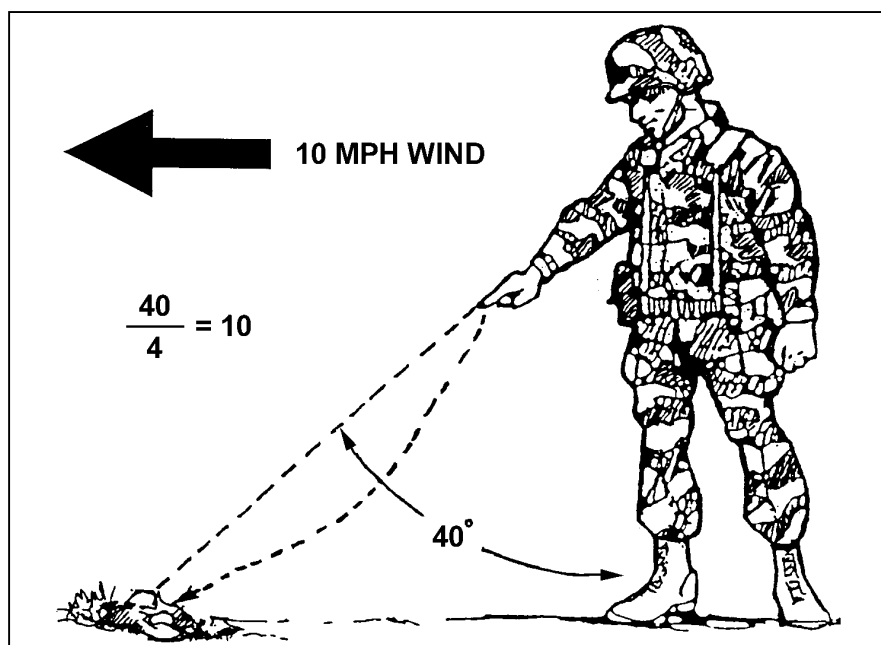

Figure 4-11. Pointing method.
(2) *Pointing Method.* A piece of paper or other light material can be dropped from shoulder height. By pointing directly at the spot where it lands, the angle can be estimated. As shown in Figure 4-11, the angle is also divided by the constant number 4 to determine the wind speed in mph. However, this only indicates the conditions at the firing position; the conditions may be different at the target.